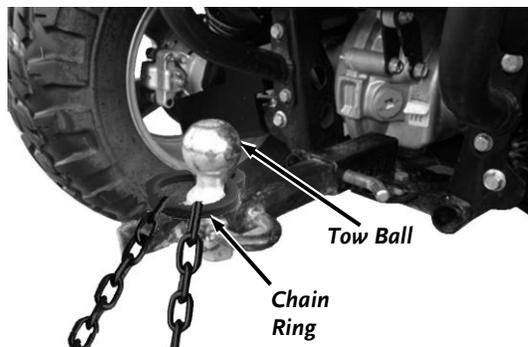

Figure 5
2. Lift the Tow Chain Ring and position it over the Hitch Ball on the Tow Vehicle (**Figure 5**).